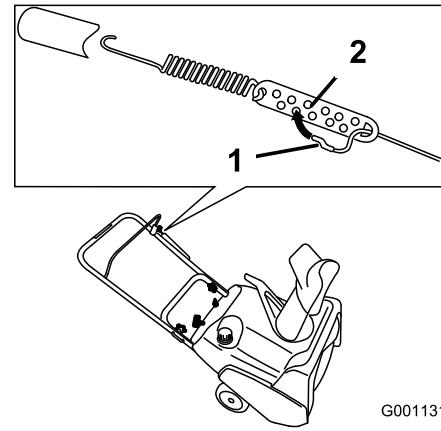

Figure 22
- Move the Z-fitting to a higher or lower hole in the adjuster link as needed to obtain the 1/16 to 1/8 inch (2 to 3 mm) gap between the control bar and the handle (Figure 22).